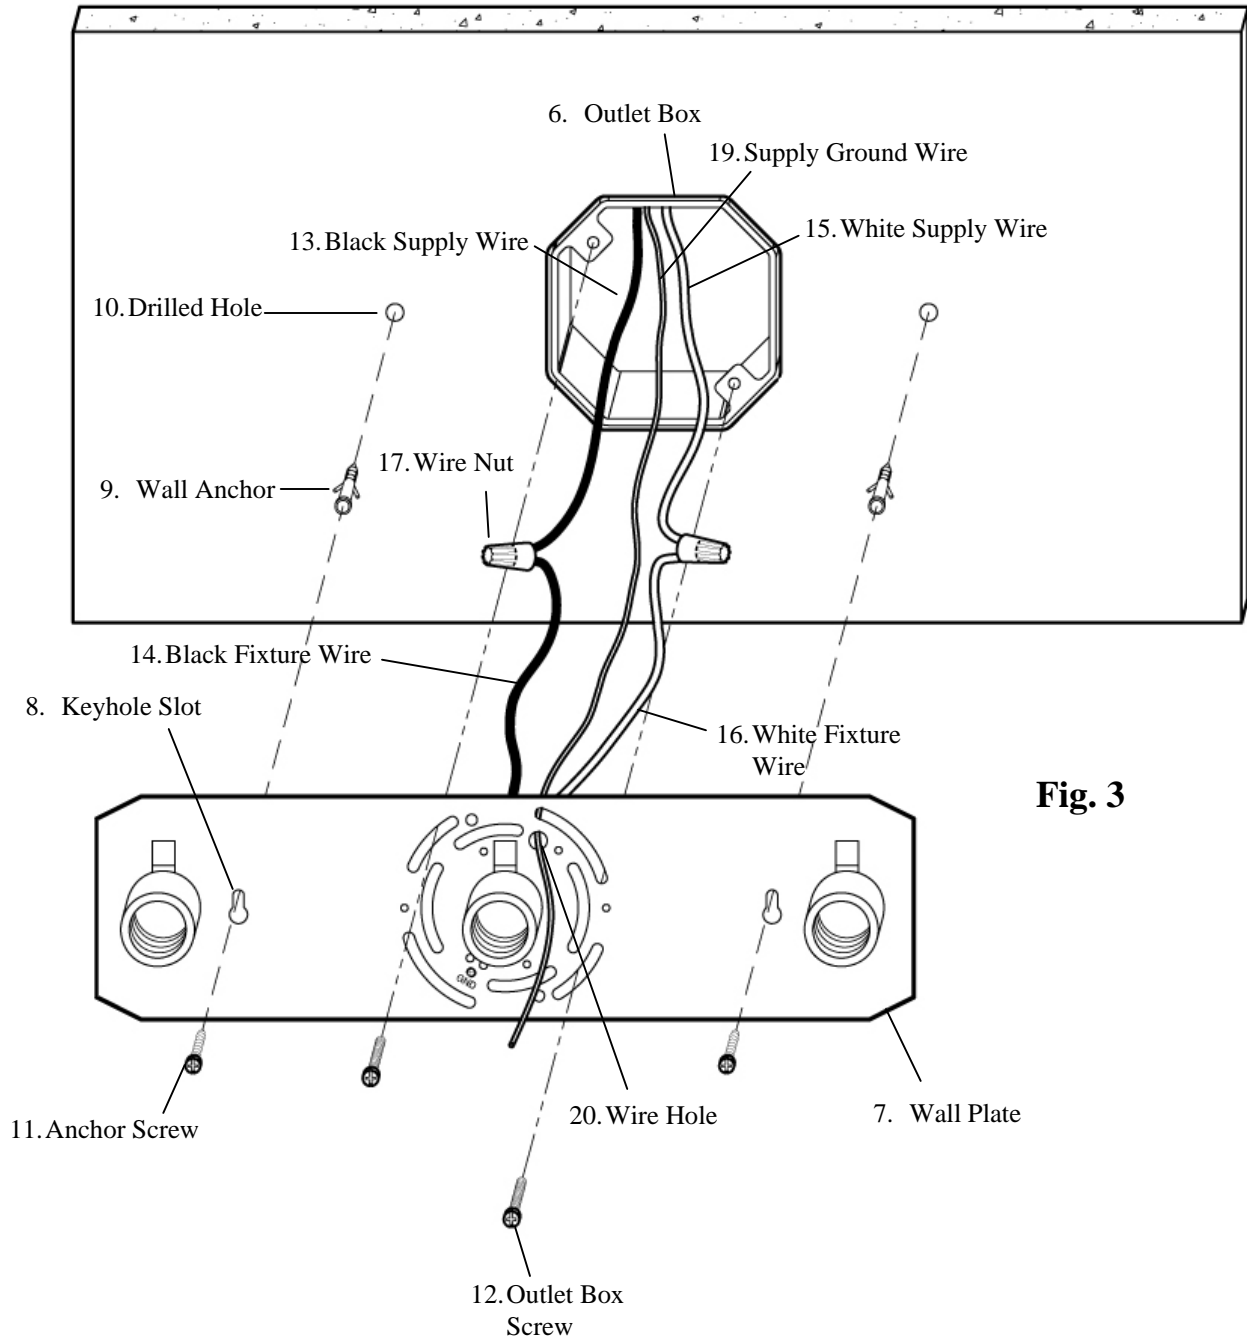

Fig. 3
1. Place the Wall Plate (#7) over the Outlet Box (#6), aligning the mounting slots of the Wall Plate (#7) with the mounting holes of the Outlet Box (#6), as shown. Use a level to make sure the Wall Plate (#7) is straight. (Fig. 3)
2. Mark the location of the Keyhole Slots (#8) of the the Wall Plate (#7) onto the wall. Remove the Wall Plate (#7) from the wall. (Fig. 3)
3. Drill a ¼" hole at the narrow end of each Keyhole Slot (#8) marking on the wall. Carefully hammer a Wall Anchor (#9) into each Drilled Hole (#10). (Fig. 3)
4. Attach the Black Supply Wire (#13) to the Black Fixture Wire (#14) and the White Supply Wire (#15) to the White Fixture Wire (#16) using Wire Nuts (#17). (Fig. 3) Wrap all wire connections with electrical tape for a more secure connection. *Note: If you have electrical questions, consult your local electrical code for approved grounding methods.*
5. Feed the Supply Ground Wire (#19) through the Wire Hole (#20) of the Wall Plate (#7). (Fig. 3)
6. Replace the Wall Plate (#7) over the Outlet Box (#6), aligning the narrow end of each Keyhole Slot (#8) with its respective Wall Anchor (#9). Feed the Anchor Screws (#11) through the Keyhole Slots (#8) and thread them into the Wall Anchors (#9) until the Wall Plate (#7) is flush against the wall. Additionally, feed the Outlet Box Screws (#12) through the mounting slots of the Wall Plate (#7) and thread them into the mounting holes of the Outlet Box (#6), as shown. Pull the power supply wires out from the Outlet Box (#6) and through the center hole of the Wall Plate (#7). (Fig. 3)